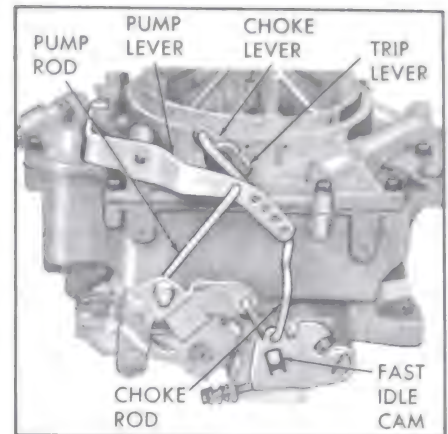

Figure 3-50—Exterior Linkage-300 Engine
1. Remove spring clip from upper end of intermediate choke rod and disengage rod from choke shaft lever. See Figure 3-50.
3. Remove choke trip lever and attaching screw. Disengage choke lever and collar assembly from choke shaft and disengage lower end of choke rod from fast idle cam. Then remove choke lever and collar, and choke rod as an assembly. See Figure 3-50.
3. Choke Unloader Adjustment. Fully open throttle so that throttle arm contacts unloader tang on fast idle cam, then check clearance between choke valve and air horn dividing wall using .120" gauge. See Figure 3-50.